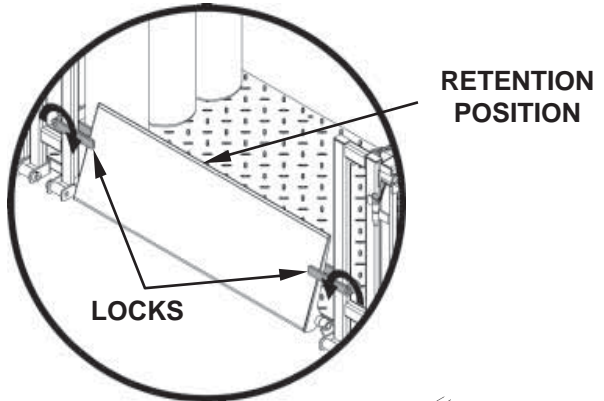
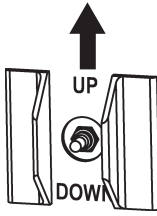
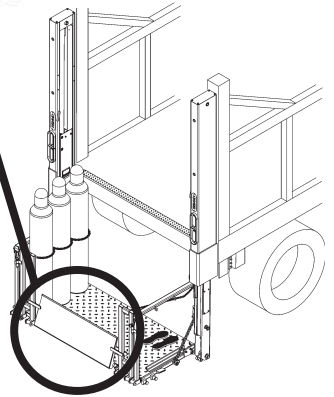

FIG. 13-1A
FIG. 13-1B
FIG. 13-1C
1. Fold ramp to retention position and rotate locks to secure ramp in position (**FIG. 13-1A**). Use runner switch (**FIG. 13-1B**) to raise platform (**FIG. 13-1C**) from ground level to bed height. Release switch when platform reaches bed height.